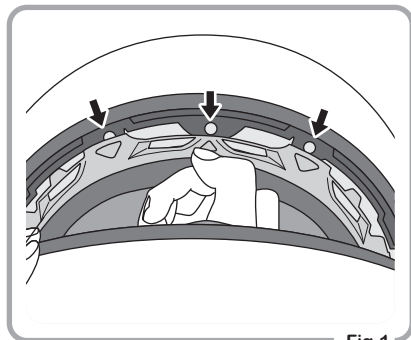

Fig.1
- ① Undo the snaps at the forehead area by pulling them down as shown in Fig.1